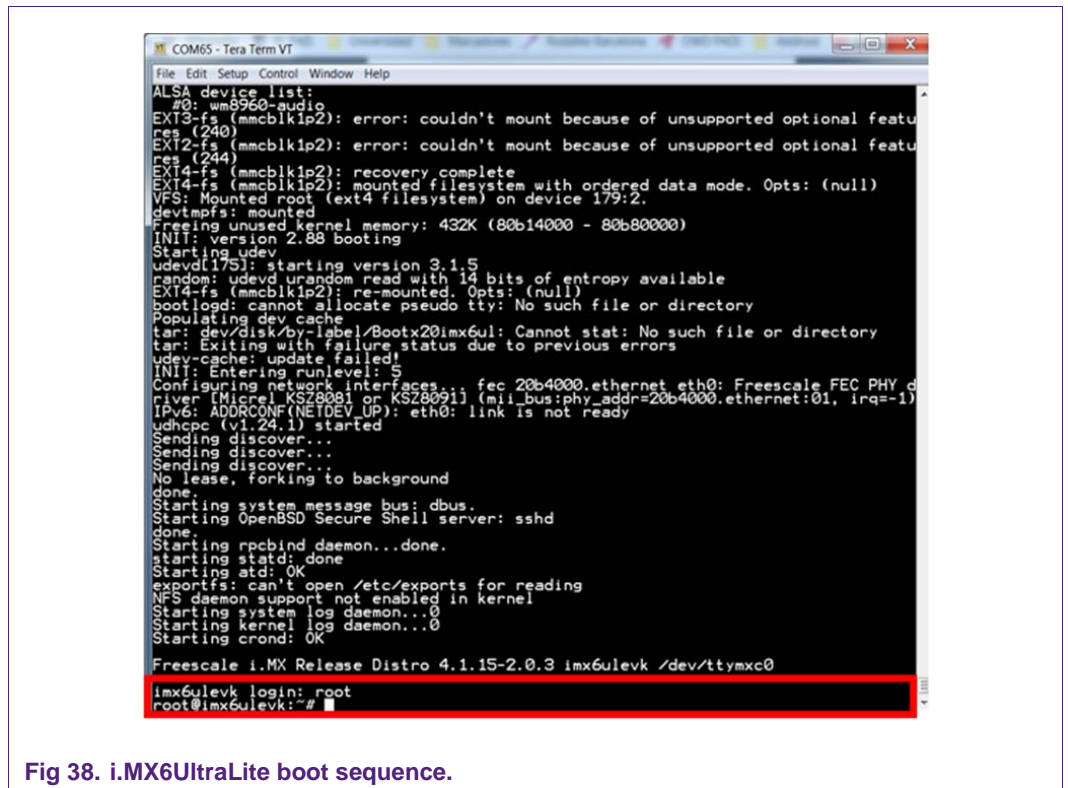

Fig 38. i.MX6UltraLite boot sequence.
1. Open a Tera Term terminal to interact with the i.MX6UltraLite platform (Fig 38, 6.3 [QUICK_START_IMX6]). Make sure the i.MX6UltraLite is connected to the ethernet.